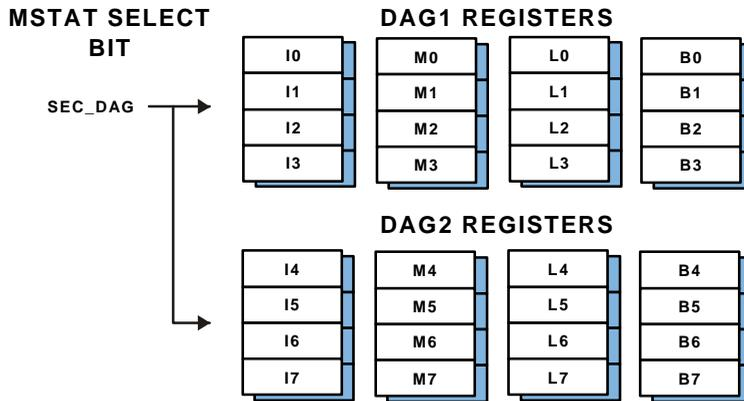

Figure 4-2. Data Address Generator Primary and Alternate Registers
contents of secondary registers are not affected by DSP operations. Figure 4-2 on page 4-5 shows the DAG's primary and secondary register sets.
Modify (M) registers can work with any index (I) register in the same DAG (DAG1 or DAG2). For a list of I and M registers and their DAGs, see Figure 4-2 on page 4-5.